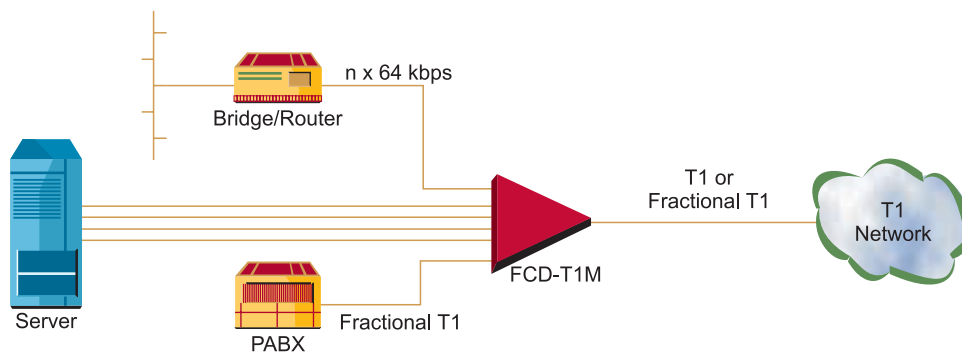

Figure 1. Connection of LAN Traffic together with PABX Traffic to T1 Network
- FCD-T1M is a CSU/DSU for T1 or fractional T1 services. It can be used as a dedicated access multiplexer for business customers, providing modular integration of voice and data traffic over T1 or Fractional T1 services (see *Figure 1*).